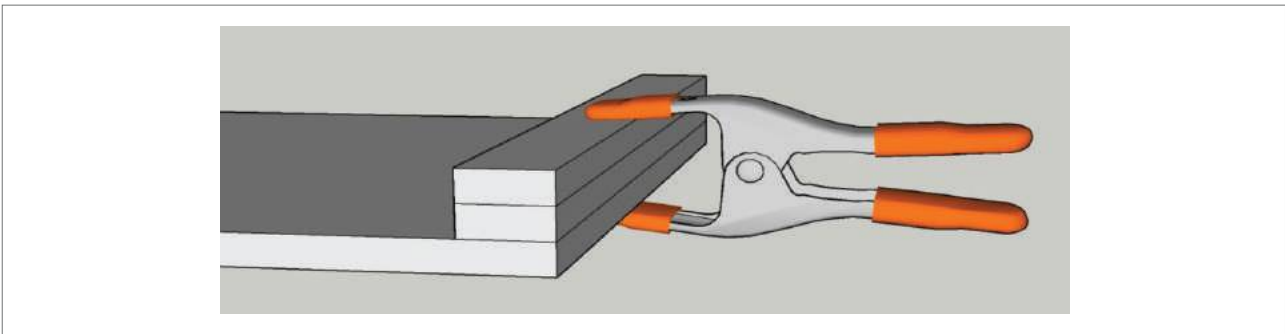

Fig.4
- Attach 'A' style spring clamps every 80 / 85 mm and allow to cure (45 min/+20°C). Ensure that, once the clamps have been applied, a reasonable amount of adhesive is forced out from the joins. Fig.4.